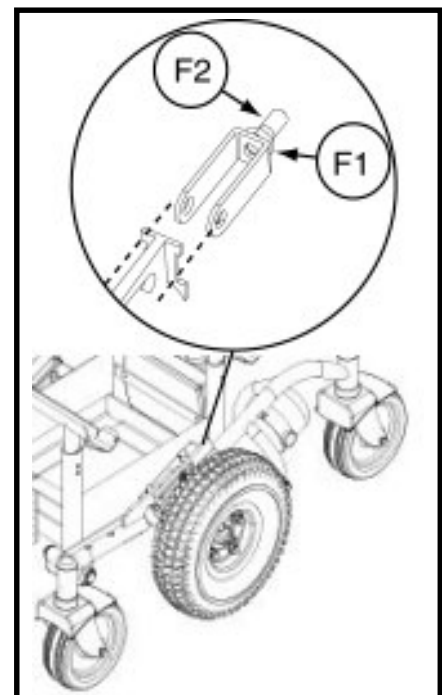

Figure 5. Caster Wheel Adjustment
2. Hold the jam nut (F1) with a 17-mm box wrench, and turn the bolt (F2) clockwise, using a 5-mm Allen wrench, to raise (increase) the pitch. To lower (decrease) the pitch, turn the screw counter clockwise. *See figure 5.*